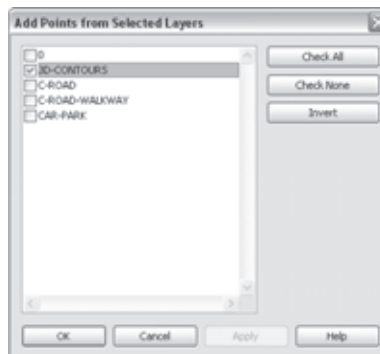

Figure 7.28
7. Open the Massing & Site tab, and from the Model Site panel, select the Toposurface tool. From the new content menu under the Tools panel, click Create from Import (Figure 7.27) and then choose Select Import Instance. Click somewhere over the DWG in your drawing area to highlight the site DWG. A dialog box (Figure 7.28) will open, and you'll see a list of all the layers included in the DWG. You need to know the layers on which the topography information is stored and select only those layers. In this case, click Check None, and select the layers called 3D-CONTOURS. Click OK. A toposurface will be generated from the imported geometry. Click Finish Surface to complete the task.